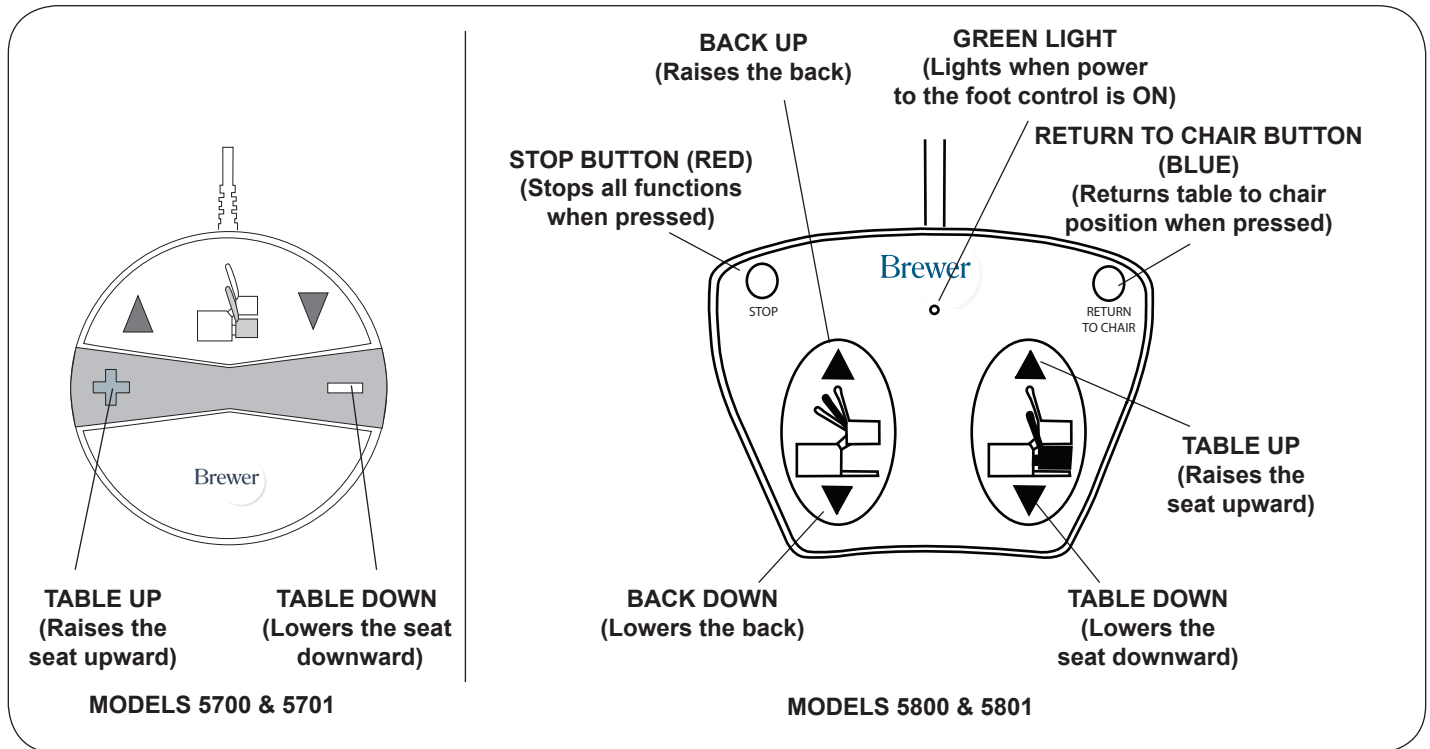
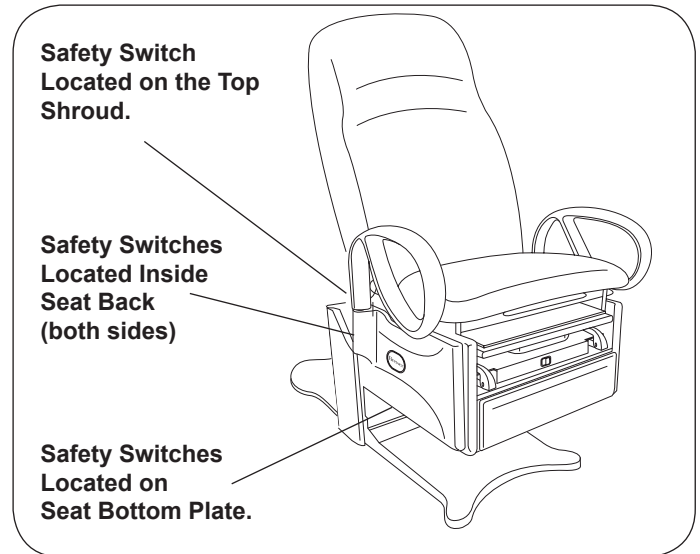

Figure 21. Foot Controls
Figure 22. Seat and Backrest Safety Switches
All models are equipped with switches on the seat bottom (Figure 22) which automatically stops the lowering function of the seat if any of the switches comes into contact with an object as the seat is lowering. To continue lowering the seat, press up on the “TABLE UP” pedal (Figure 21), clear the obstruction, and continue lowering the seat.
All models are equipped with a switch on the top shroud (Figure 22) which automatically stops the lowering function of the seat and back if the switch is contacted by the backrest. To continue lowering the seat:
- **Models 5800 & 5801** - Depress the “BACK UP” pedal (Figure 21) to clear the switch. When clear of the switch continue lowering the seat.